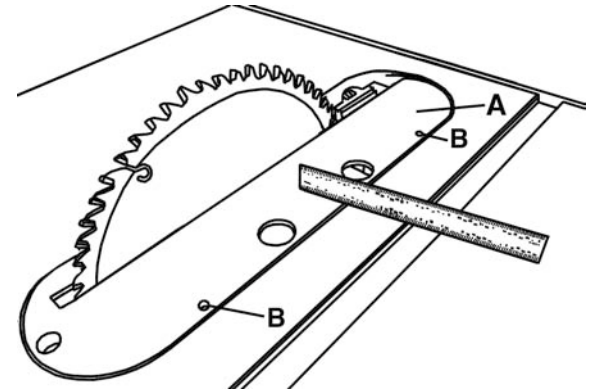

FIGURE 12
A table insert (A) Fig.12 gets placed in the opening in the saw table and should be perfectly flush with the surface of the saw table. To adjust the table insert, place a straight edge over the table insert and the table. Turn the 4 adjusting set screws (B) in the insert, turn them in or out until all 4 corners of the insert are flush with the table top.